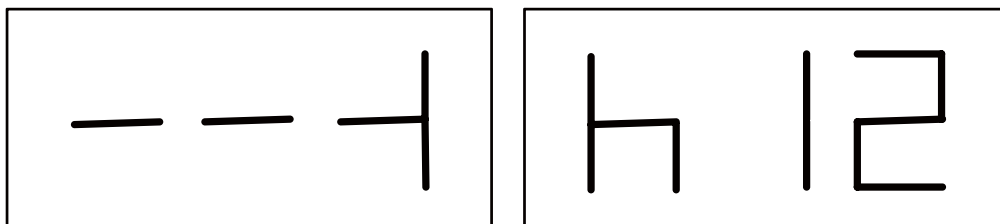

Fig. F5.7 “Final valve alignment with the mark on the tyre” message
- a) Bring the valve to the 12 o’clock position and press [P4]  to continue. In this case, the message seen in figure F5.7 will be displayed.